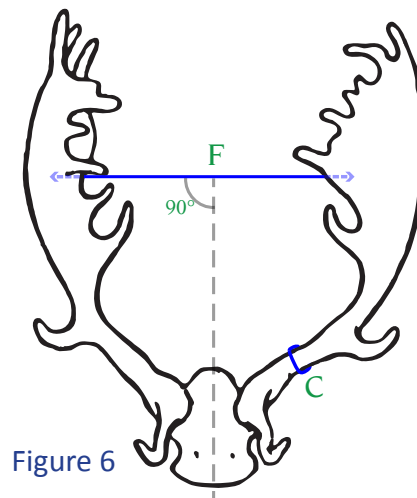

Figure 6
2. Measure the circumference of each antler at the smallest point between the brow tine and the second tine. (Figure 6, C) This can be anywhere between these two tines. In some cases fallow buck may have additional antler growths or protuberances (tines) in this area and several measurements will have to be taken to find the smallest circumference.
5. Measure the widest inside span of the antler beams at a right angle to the long axis of the skull. (Figure 6, F)